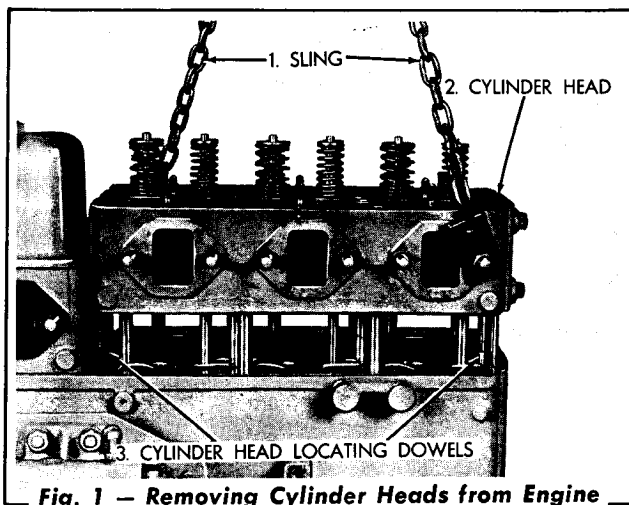

Fig. 1 - Removing Cylinder Heads from Engine
18. Remove the cylinder head stud nuts, and with a sling similar to the one shown in Fig. 1, remove the cylinder head(s).